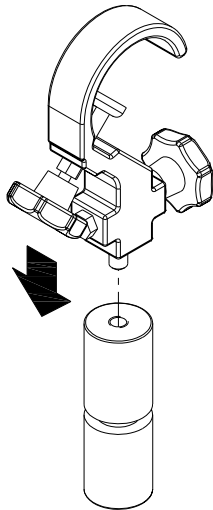

Figure 1:
1. Screw the truss clamp onto the pole mount spigot, using an adjustable wrench (Figure 1).